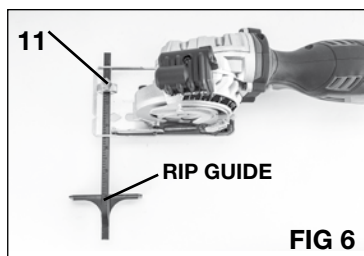

FIG 6
INSTALLING RIP GUIDE (FIG 6)
2. Insert the rip guide through all three slots in the saw base at the front of the saw, starting with slot in the right side edge of the base. See figure 6.
4. Adjust the rip guide for the desired width of cut and then securely tighten the thumbscrew (11) in the center slot to hold the rip guide in position.